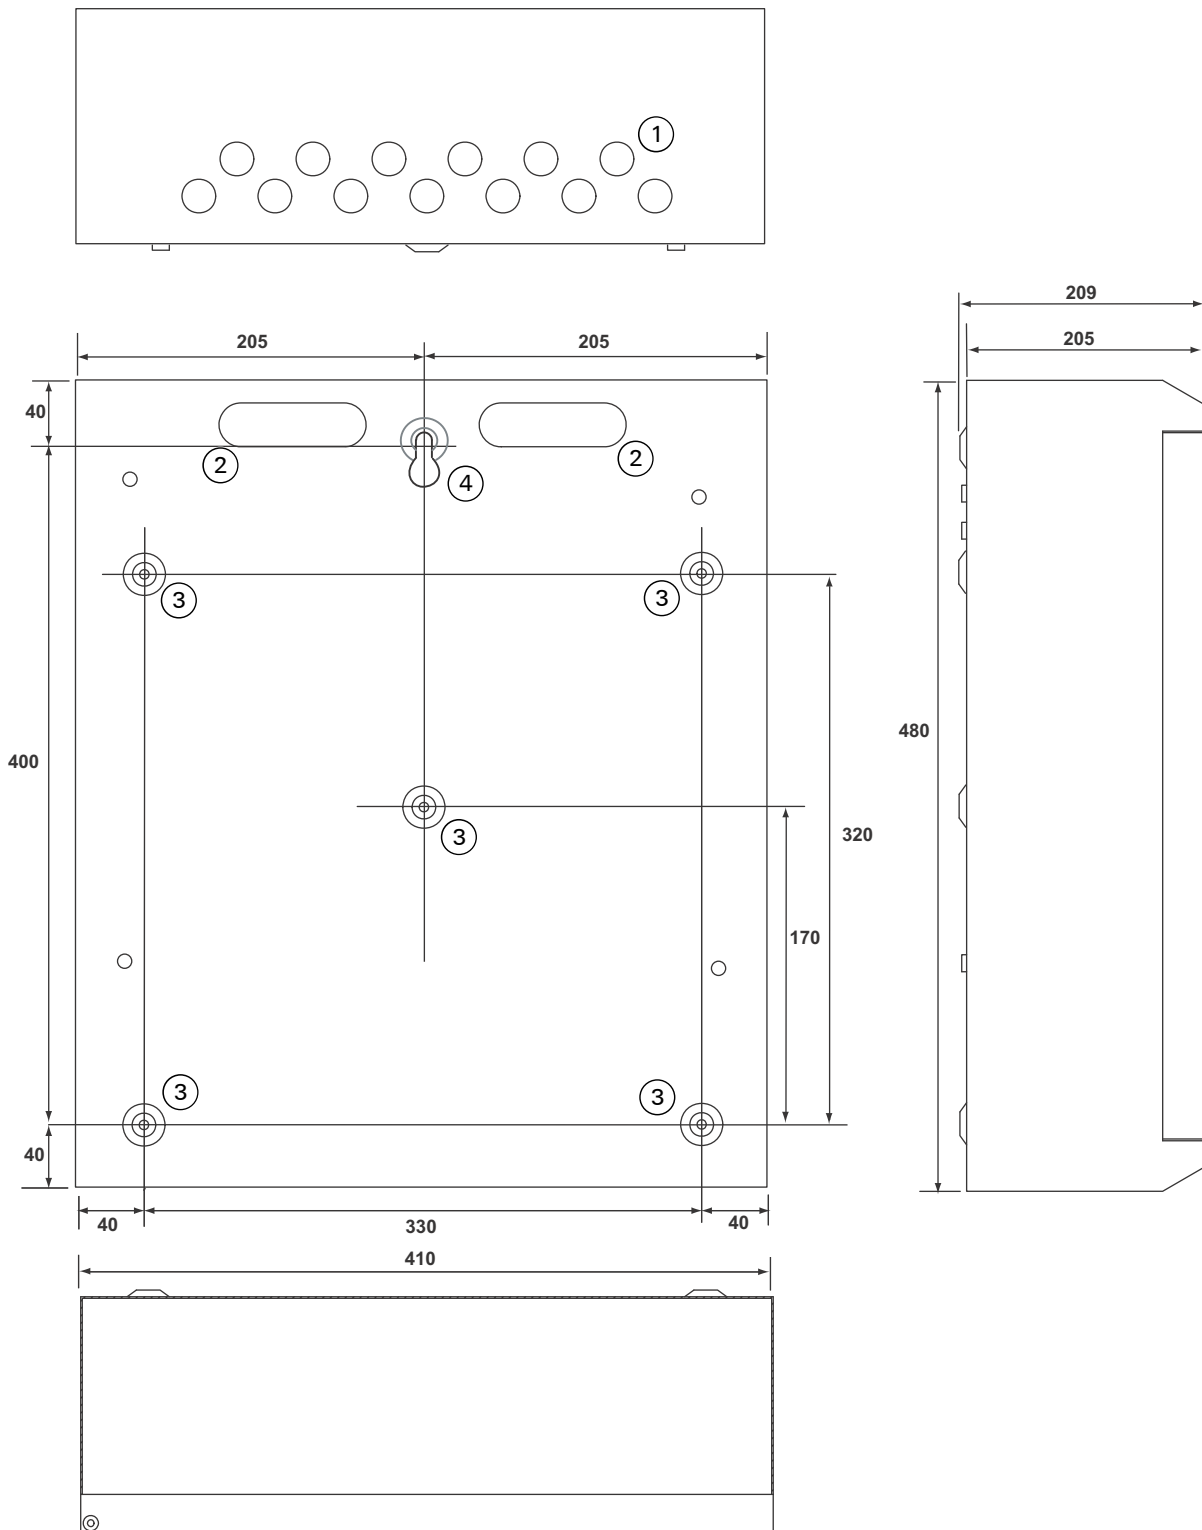

Fig. 5: Overall and Fixing Dimensions – FireClass 64-4 and FireClass 240-4
- FireClass 64-4, FireClass240-4: Fig .5.